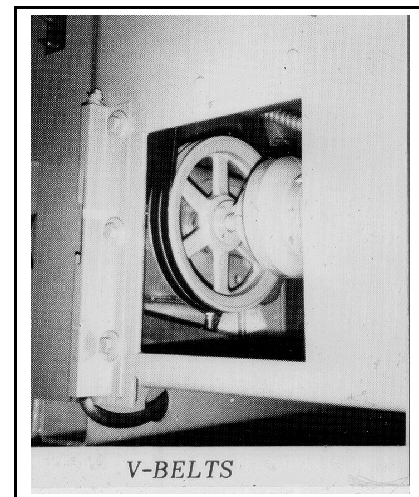
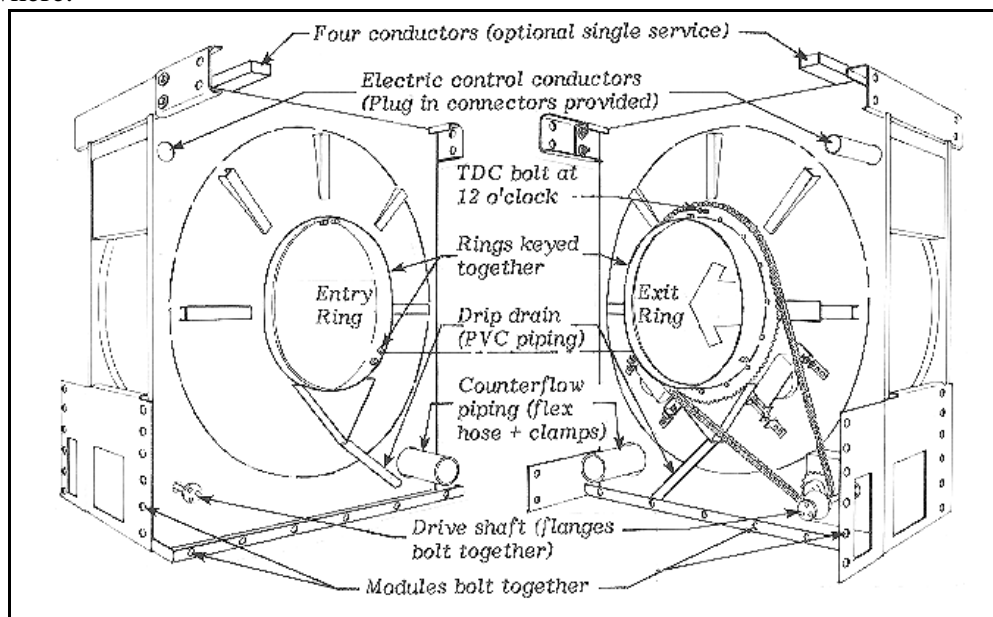

FIGURE 3 (MSIND410AE)
FIGURE 4 (MSIND410AE)
1. Be sure that the cylinders are timed together. This is accomplished by observing the position of each cylinder within the shell and if necessary, adjusting it to insure that it is in the top dead center (TDC) position. The cylinder TDC point is identified by a 3/8" - 24 cap screw, which protrudes from the large sprocket gear. This is the only cap screw on the large sprocket gear that protrudes and is done so for a timing reference only (it does not secure anything). Line this bolt up with the center of the shell face strut at the 12 o'clock position (see FIGURE 4, "Module Interconnections"). Be sure it is directly in the center of the shell face strut. If adjustment is required, the cylinder(s) may be turned by pulling the v-belts (see FIGURE 3) by hand. More detailed instructions may be found in "PREVENTIVE MAINTENANCE - TIMING AND CHAIN" elsewhere.
5. Make all required service connections between modules as shown in the FIGURE 4, “Module Interconnections”.